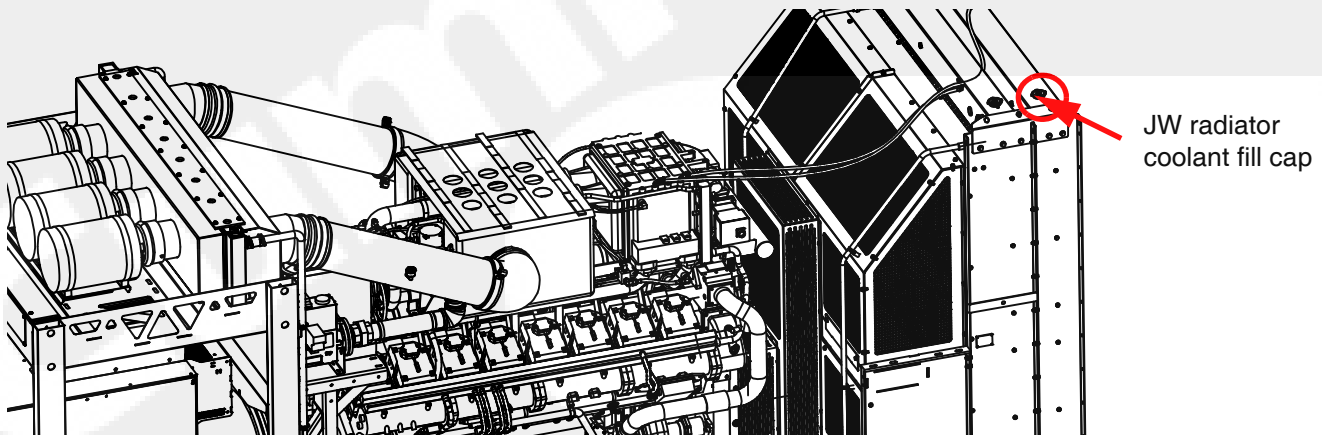

Figure 5-6 JW radiator coolant fill cap (GenSet right side)
6. As shown in Figure 5-6, twist the JW fill cap counter-clockwise and open the JW radiator fill port.